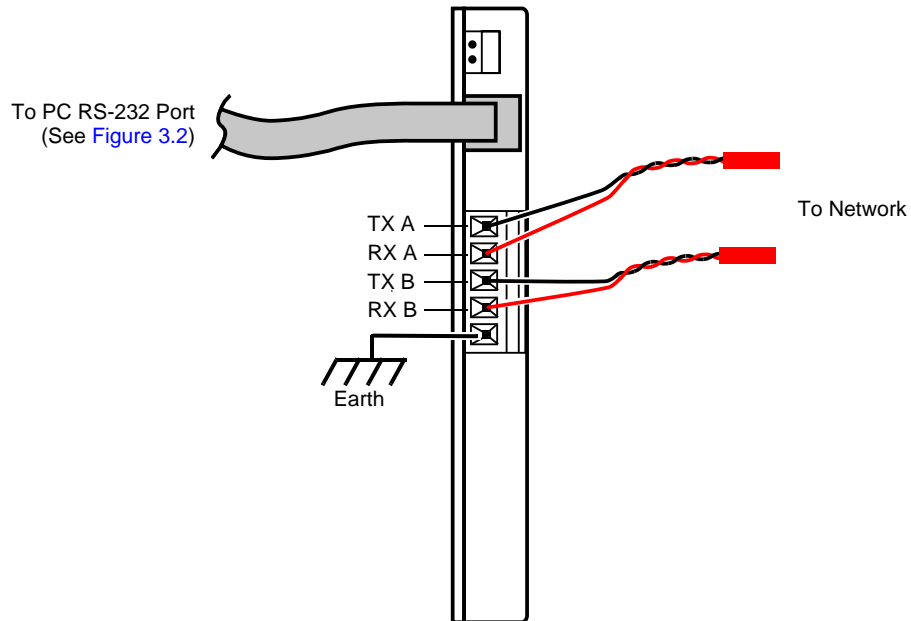

Figure 3.3 OW-LITE-NW Network Connections
- For the OW-LITE-NW, connect the wire pairs to the terminal connector as shown in Figure 3.3.